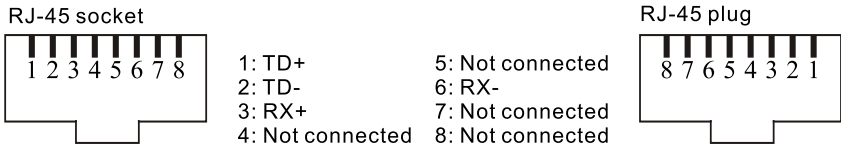

Fig.8.3-3
2. The fixture is provided with 8-pin RJ-45 connector for internet input. Please use class 5 cables and standard RJ-45 connector for internet connection, Shown as Fig.8.3-3.